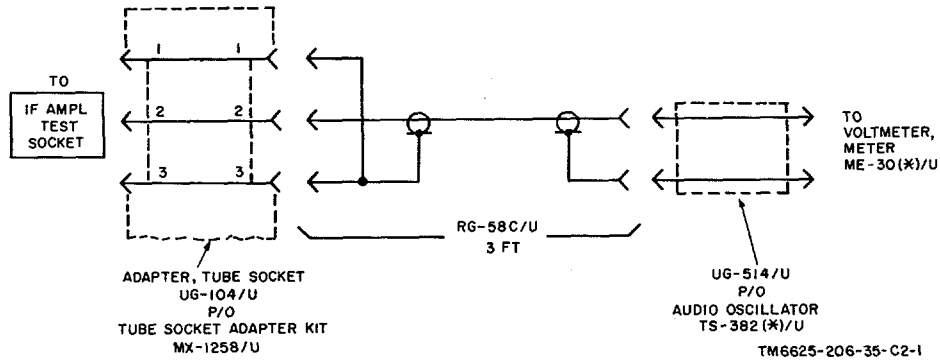
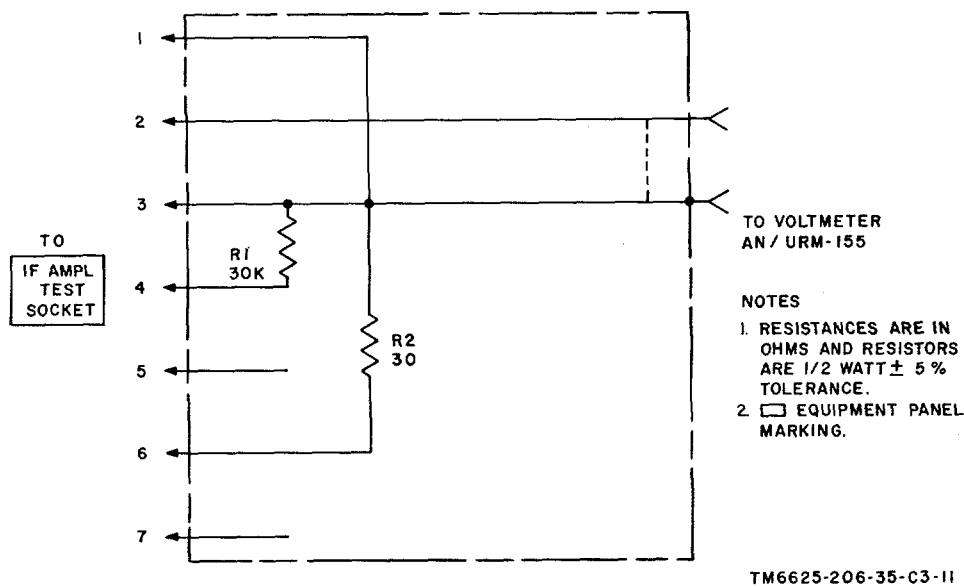

Figure 22.1. If. amplifier sensitivity special test setup, schematic diagram (AN/URM-113).
Figure 22.2. Special test plug (Hickok part No. 16525-239), schematic diagram (AN/URM-113A).
b. Plug the special test plug (fig. 22.2) into the IF AMPL TEST SOCKET; this places a 30-ohm load on the +1.5-volt dc bus.
a. Connect the rf voltmeter (.set to 1 volt range) to the special test plug (fig. 22.2) and insert the plug into the DISCR TEST SOCKET.
e. Set the FREQUENCY SELECTOR switch to CTR. Connect the rf voltmeter (set to 30 mv range) to the special test plug (fig. 22.2) and insert the test plug into the IF AMPL TEST SOCKET.
b. Monitor the voltage at pin 2 of the IF AMPL TEST SOCKET (use the special test setup as shown in fig. 22.1 or 22.2) and adjust the RF CAL control for 150 mv.
d. Remove the special test setup (fig. 22.1 or 22.2) and insert TEST PLUG P2 (fig. 1, TM 11-6625-206-12) in the IF AMPL TEST SOCKET. Adjust IF calibration control R20 (fig. 20) so that the test set meter of the AN/URM-113 indicates at 50 on the numerical scale, or the test set meter of the AN/URM-113A indicates at the CAL LEVEL line. Remove TEST PLUG P2 and reinstall the special test setup (fig. 22.1 or 22.2). Recheck with the rf voltmeter for 150 mv. Remove the test setup and ,reinsert TEST PLUG P2.
(As added by C 2, 28 Nov 62). Add figure 22.1 after paragraph 31:
Add figure 22.2 after figure 22.1:
d. Set the FUNCTION SELECTOR switch to IF TEST and monitor the voltage at pin 2 of the IF AMPL TEST SOCKET; use the special test setup as shown in figure 22.1.
a. Plug the special test plug (fig. 22.2) into the IF AMPL TEST SOCKET. This places a
d. Adjust the audio oscillator for a 5-volt rms, 500-cps output. Connect the audio oscillator to the special test plug (fig. 22.2) and insert the plug into the PULSE SW GEN TEST SOCKET (meter test set indication will change to 0 SET when this is done).